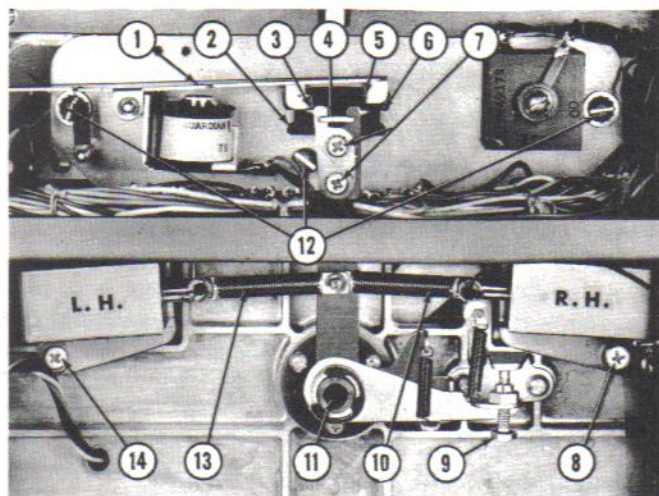
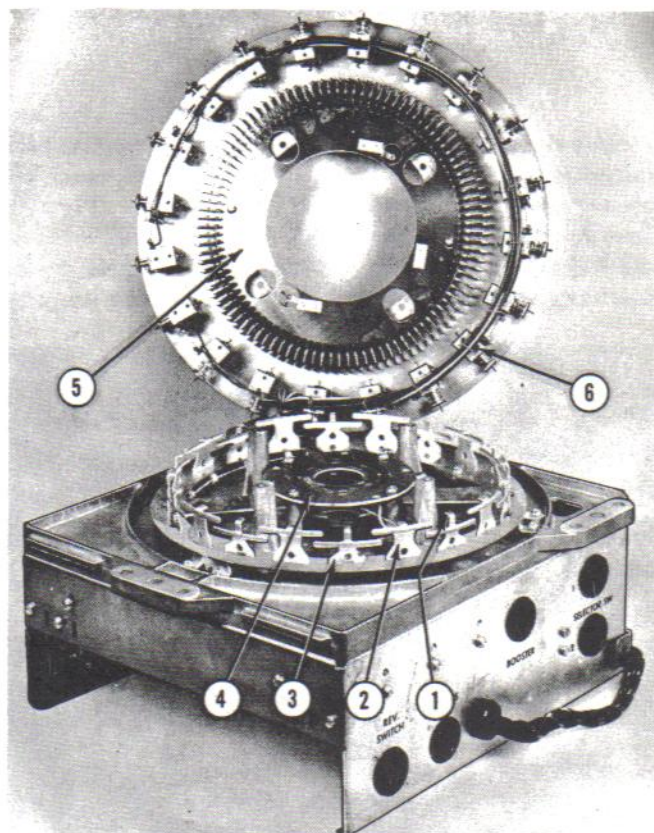
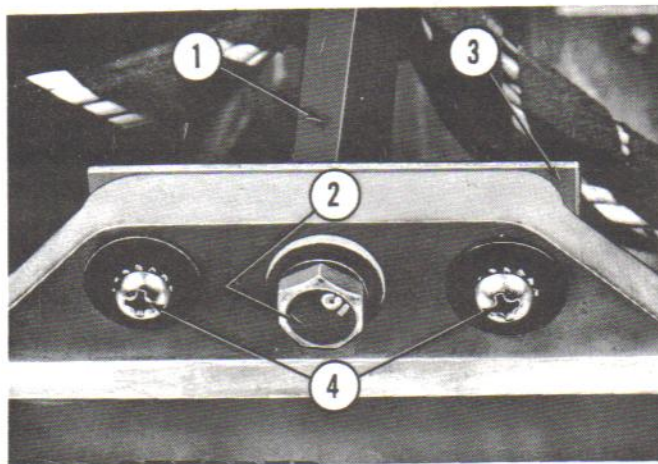
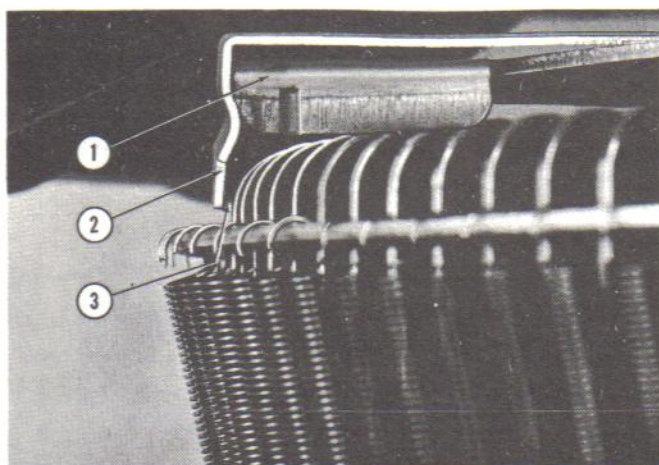

Fig. 24. ROTATING PLATE AND ROCKER ARM ADJUSTMENT - 2510
Fig. 25. ELECTRIC SELECTOR ASSEMBLY - 2510
Fig. 30. GUIDE PLATES AND MOUNTING
Fig. 31. ELECTRIC SELECTOR CENTERING
(1) The guide plate, held by the adjusting screws (Fig. 24, Item 7), should be set to zero clearance with the stop bracket (Item 4) on the rotating plate and rocker arm assembly.
(2) The adjusting screw (Item 9) should be set to align the tips of the 20 rocker arms (Fig. 25, Item 1) with 10 selector pins number 3, A through K, and 10 selector pins number 8, A through K. This is the normal rest position for the rotating plate and rocker arm assembly.
(3) Manually move the rotating plate and rocker arm assembly to the extreme right hand stop position with the stop bracket (Fig. 24, Item 4) resting against the stop tab (Item 6). In this position the tips of the 20 rocker arms should align with 10 selector pins number 1, A through K, and 10 selector pins number 6, A through K. Should adjustment be required the three mounting screws (Item 12) may be loosened and the stop magnet mounting plate moved to provide correct alignment.
(4) Manually hold the rotating plate and rocker arm assembly in its extreme left hand position with the stop bracket (Fig. 24, Item 4) resting against the stop tab (Item 2). In this position the tips of the 20
(5) The right hand intermediate stop position should be checked by manually operating the stop magnet armature (Item 1) and moving the rotating plate and rocker arm assembly to position the stop bracket (Item 4) against the stop tab (Item 5) on the armature. In this position the tips of the 20 rocker arms (Fig. 25, Item 1) should align with 10 selector pins number 2, A through K, and 10 selector pins number 7, A through K. Should adjustment be required the stop tab (Fig. 24, Item 5) may be formed.
(6) The left hand intermediate stop position should be checked in the same manner as for the right hand intermediate stop. The stop bracket (Fig. 24, Item 4) should be manually held against the stop tab (Item 3) on the stop magnet armature. In this position the tips of the 20 rocker arms (Fig. 25, Item 1) should align with 10 selector pins number 4, A through K, and 10 selector pins number 9, A through K. Should adjustment be required the stop tab (Fig. 24, Item 3) may be formed.
(1) Manually hold the right hand driver solenoid plunger bottomed in the solenoid. The coupling spring of the plug and spring assembly (Fig. 24, Item 10) should stretch 1/16" while the stop bracket (Item 4) on the rotating plate and rocker arm assembly is held firmly against the extreme right hand stop position (Item 6). Should adjustment be required the solenoid mounting bracket may be moved by loosening the two mounting screws, one of which is shown at Item 8. It is important to maintain the straight in-line position between the solenoid and plunger.
(2) The left hand driver solenoid plunger should be checked by manually holding the plunger bottomed in the solenoid. The coupling spring (Item 13) should stretch 1/16" while the stop bracket (Item 4) on the rotating plate and rocker arm assembly is firmly held against the extreme left hand stop (Item 2). Should adjustment be required the solenoid mounting bracket may be moved by loosening the two mounting screws, one of which is shown at Item 14.
(1) Centering of the 100 selector pin assembly normally is not required if the original unit is retained with its changer. However, where selector pin assemblies are interchanged on the 100 selection changer, the guide plates, one of which is shown in Figure 30, Item 3, should be loosened. The assembly should be loosely mounted on the three studs (Item 1) and centering shaft number 69247 or a number 2 Phillips screw driver inserted through the center bushing (Fig. 24, Item 11) into the main shaft. Tighten the guide plate retaining screws (Fig. 30, Item 4) and the three mounting screws (Item 2). Remove the centering shaft and check the selector crank arm adjustments. Also check the mechanism for correct selections.
Centering of the 104 selector pin assembly has been carefully done at the factory and if the original unit is kept with its changer it will not need re-centering provided the alignment plates, one of which is shown in Figure 30, Item 3, are not disturbed. The assembly may be easily removed by disengaging all cable plugs and removing the three mounting screws (Item 2). The screws (Item 4) should not be loosened. However, if a selector pin assembly should be mounted on another changer the alignment plates (Item 3) must be loosened. The pin assembly should be loosely mounted on the three studs (Item 1) and the centering clip number 61672-6 (Fig. 31, Item 2) snapped in place on the selector crank arm (Item 1). Shift the pin assembly on its mounting studs to obtain a uniform clearance between the centering clip and all selector pins as shown in Figure 31, Item 3.